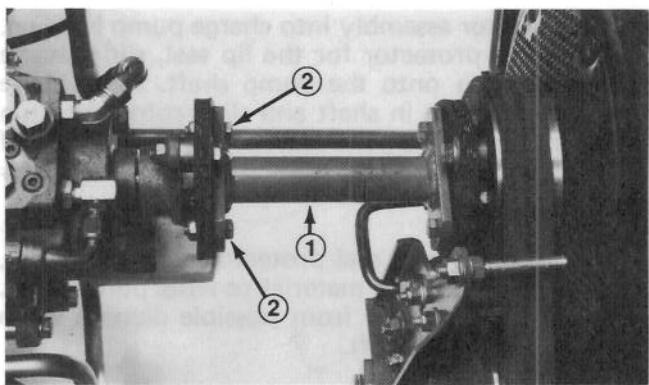

Figure 76
- Remove capscrews, locknuts and spacers securing drive coupling assembly between engine pulley and transmission hub (Fig. 76). Slide drive coupling assembly from between the hub and pulley.
2. Slide two capscrews through transmission hub and install locknuts onto the capscrews (Fig. 76). Tighten capscrews and locknuts.
3. Secure other end of rubber coupling to engine pulley with capscrews, lockwashers and flatwashers (Fig. 76).